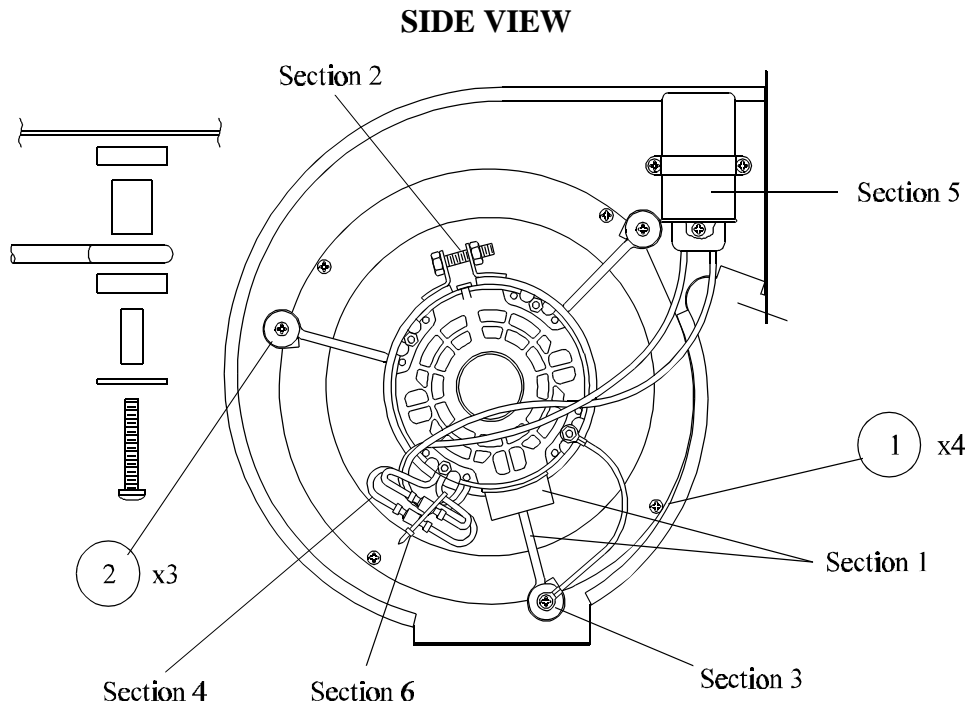

FIGURE 7
2. Remove 4 screws from venturi (See #1, Figure 7).
3. Remove 3 screws from motor mount bracket (See #2, Figure 7).
Note: Upon reassembly, the references made on Figures 7 and 8 shall be used for proper reassembly.